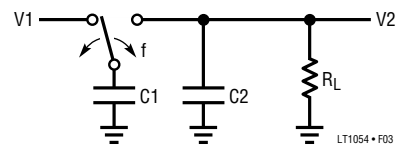

Figure 3. Switched-Capacitor Building Block
In Figure 3 when the switch is in the left position, capacitor C_1 will charge to voltage V_1 . The total charge on C_1 will be $q_1 = C_1 V_1$. The switch then moves to the right, discharging C_1 to voltage V_2 . After this discharge time the charge on C_1 is $q_2 = C_1 V_2$. Note that charge has been transferred from the source V_1 to the output V_2 . The amount of charge transferred is:
*SEE FIGURE 3